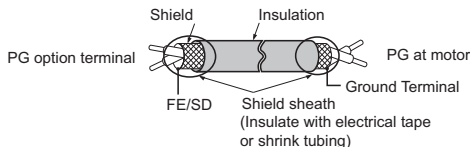

Figure 6 Preparing Ends of Shielded Cable
4. Prepare wire ends as shown in Figure 6. Refer to Wire Gauges and Tightening Torques on page 20 to confirm that the proper tightening torque is applied to each terminal. Take particular precaution to ensure that each wire is properly connected and wire insulation is not accidentally pinched into electrical terminals.